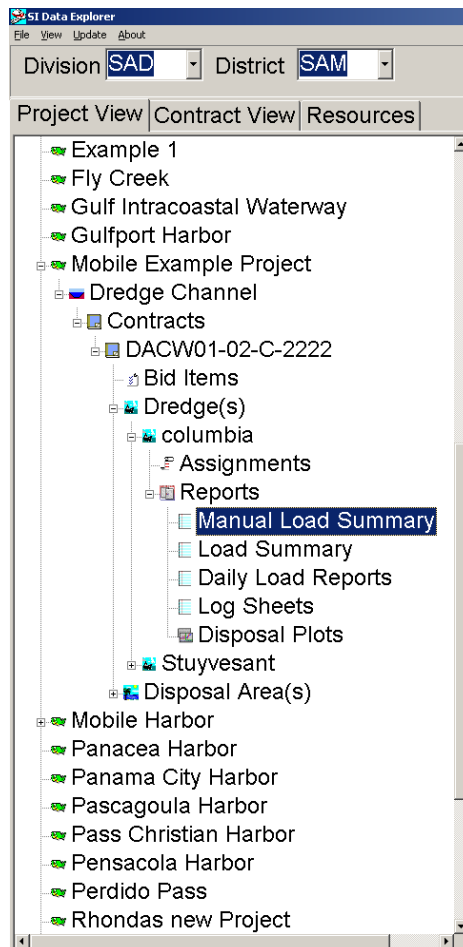

Figure 1.35 Manual Load Summary.
1. Click on **Manual Load Summary** located under **Reports** for the particular dredge to be monitored as seen in Figure 1.35.